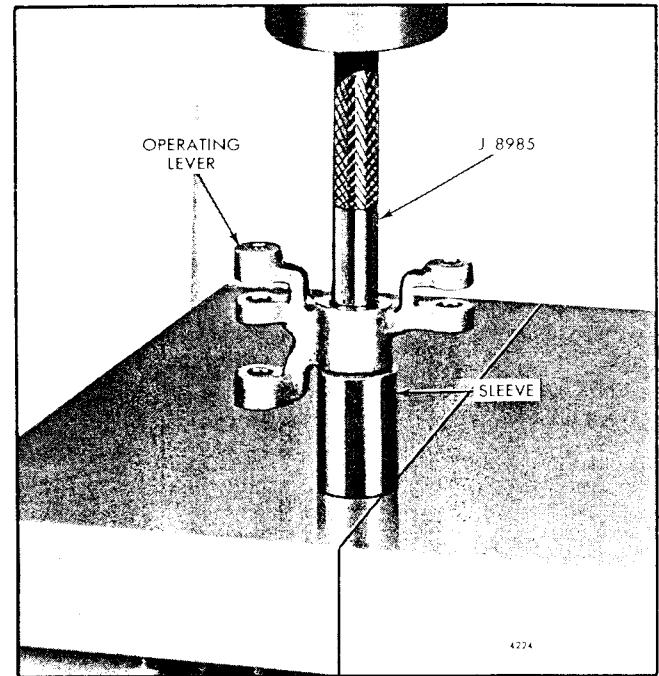

Fig. 8 - Removing Control Link Operating Lever Bearings
- l. If removal of the needle bearing is necessary, support the control link operating lever on a sleeve and rest the sleeve on the bed of an arbor press. Place tool J 8985 on top of the bearing and under the ram of the press, then press both bearings out of the lever as shown in Fig. 8.